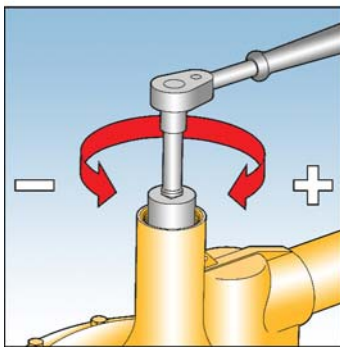

Fig. 11
3. Fully unscrew and remove the adjustment screw, See Fig. 11.
10. Screw top spring holder back in place, ensuring that castellated spigot is uppermost in chimney. See Fig. 11. (If UPSS only ensure that spacer tube is firmly clamped)